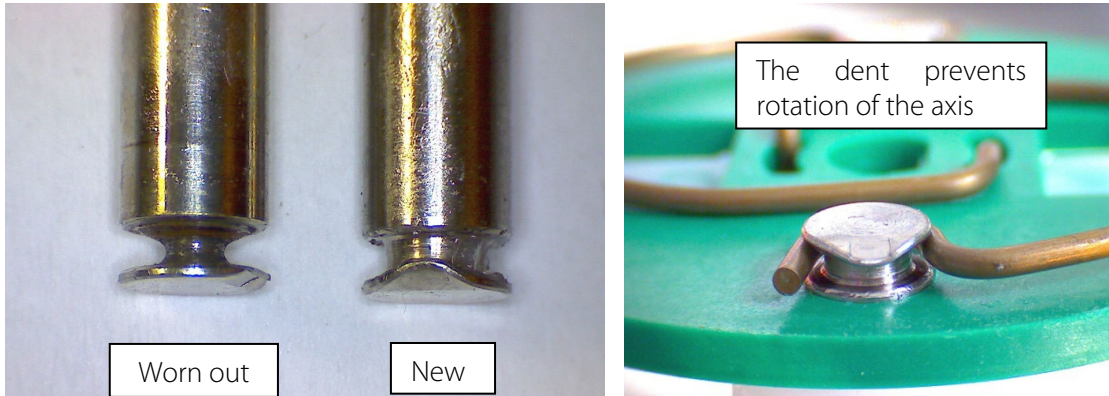

Figure 11 Check of axes and rolls
- Dismount roller axes and change contact pulleys. Take care that axes are not worn out by the springs and have damaged the dent at the axes front end. In case of abrasion the axes have to be changed (see Figure 11).
- Make sure that contact pulleys move easily on the axis. After remounting the axis with contact pulley into the driver, the spring has to be mounted as shown as in Figure 11. Please pay attention to the alignment of the dent.